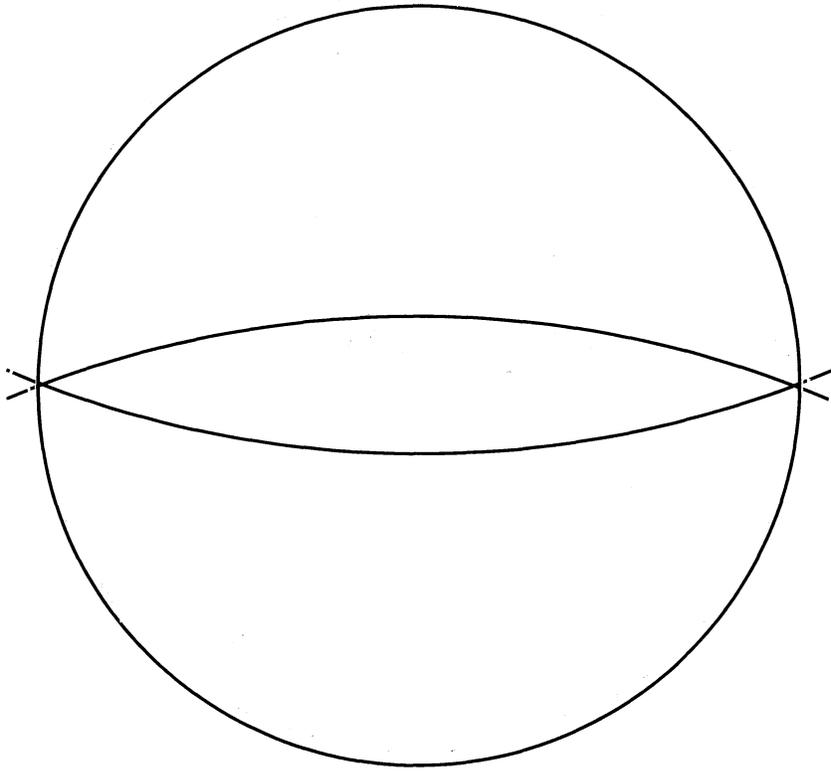

Figure 2
- (c) Set the SPEED SEL switch to 100 and adjust the OSC ADJ 100 potentiometer until a 1/2-cycle stationary trace is obtained as in Figure 2. The setting of the potentiometer adjustment slot shall not be within 30 per cent of either end of its allowable maximum travel.
- (d) Set the SPEED SEL switch to 100/200 and the 1/2-cycle stationary trace of Figure 2 shall remain unchanged without further adjustment of the OSC ADJ 100 potentiometer.